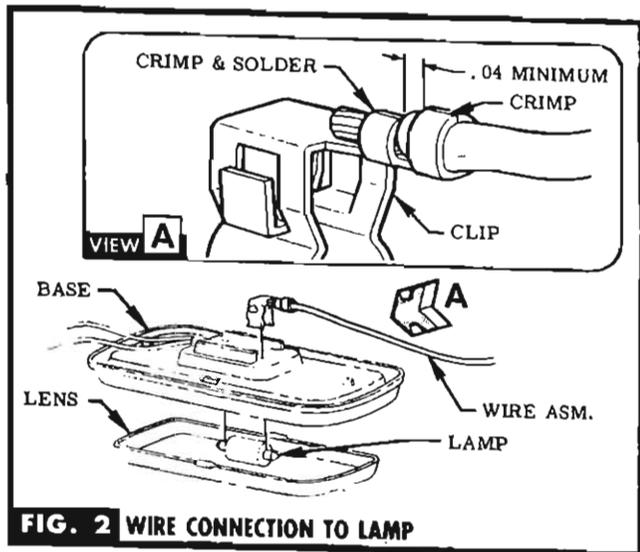

FIG. 2 WIRE CONNECTION TO LAMP
STEP 4 CRIMP & SOLDER BARE END OF WIRE TO CLIP. REMOVE LENS FROM LAMP ASM. INSERT CLIP INTO BASE. INSERT LAMP INTO CLIPS. REPLACE LENS. SEE FIG. 2 & VIEW A.
STEP 1a ON L. H. SIDE ONLY, REMOVE & DISCARD EXISTING MIRROR & ATTACHING PARTS. PLUG HOLES WITH PARTS PROVIDED. SEE FIG. 2.
STEP 2a MARK HOLE CENTER AT TOP OF DOOR & VERTICAL CENTERLINE AT BOTTOM FROM FRONT EDGE OF C.V. PILLAR, USE DIMENSIONS SHOWN. USING TOP BRACKET (STAMPED # 1) AS TEMPLATE, MARK REMAINING TOP HOLE. SEE FIG. 2.
STEP 3a CENTERPUNCH & DRILL TOP HOLES & ATTACH TOP BRACKET (STAMPED # 1) & GASKET WITH ATTACHING PARTS PROVIDED. SEE FIG. 2.
STEP 4a ASSEMBLE MOUNTING BRACKETS & GASKETS TO ARM. SEE FIG. 2. **NOTE** Do not spread brackets over tube, but assemble from arm end.
STEP 5a ASSEMBLE BRACKET (STAMPED # 2) TO TOP SIDE OF LOWER PART OF ARM, & BRACKET (STAMPED # 1) TO BOTTOM SIDE OF LOWER PART OF ARM WITH ATTACHING PARTS PROVIDED. SEE FIG. 2.
STEP 6a ATTACH UPPER PART OF ARM TO TOP SIDE OF TOP BRACKET WITH ATTACHING PARTS PROVIDED. SEE FIG. 2.
STEP 7a LINE UP LOWER BRACKETS WITH CENTERLINE PREVIOUSLY MARKED, USE BRACKETS AS TEMPLATE, MARK HOLE CENTERS, CENTERPUNCH & DRILL BOTTOM HOLES. SEE FIG. 2.
STEP 8a ATTACH BOTTOM BRACKETS & GASKETS WITH ATTACHING PARTS PROVIDED. SEE FIG. 2.
STEP 9a ASSEMBLE MIRROR SUPPORTS TO MIRROR WITH ATTACHING PARTS PROVIDED. SEE FIG. 2.
STEP 10a INSTALL MIRROR BY ATTACHING MIRROR SUPPORTS TO MOUNTING BRACKETS WITH ATTACHING PARTS PROVIDED. SEE FIG. 2.
STEP 2 ATTACH OUTSIDE BRACKET & GASKET WITH SCREWS. SEE FIG. 2.
STEP 3 INSERT DRILL BUSHING IN BRACKET & TIGHTEN SET SCREW. CENTER PUNCH & DRILL HOLE THRU DOOR. LOCATE, CENTER PUNCH, & DRILL GROMMET HOLE ON INSIDE OF DOOR. SEE FIG. 2.
STEP 5 INSERT SPOTLAMP SHAFT THRU BRACKET & ROTATE TO ENGAGE TONGUES IN OUTSIDE BRACKET WITH SLOTS ON SHAFT. TIGHTEN SET SCREW. SEE FIG. 2.
STEP 6 PLACE RUBBER SPACER ON SHAFT & ROTATE TO MATCH CONTOUR OF DOOR. POSITION INNER BRACKET SUPPORT INTO THE INSIDE BRACKET & SLIDE ONTO SHAFT, PRESS TIGHT TO DOOR & TIGHTEN SET SCREW. SEE FIG. 2.
STEP 7 USING SUPPORT AS A TEMPLATE, CENTER PUNCH & DRILL HOLE IN DOOR. ATTACH SUPPORT TO DOOR WITH PROVIDED SCREW. SEE FIG. 2.
STEP 8 WITH SPOTLAMP IN NORMAL UPRIGHT POSITION REINSTALL HANDLE TO FACE 30° TO THE REAR & SECURE WITH WEDGE & NUT. SEE FIG. 2.